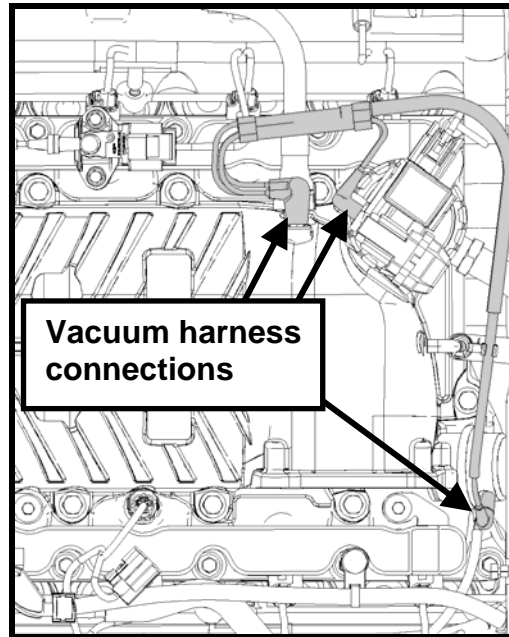

Fig. 24
STEP 8: Re-install the vacuum harness to the ESM, supercharger and supercharger bypass actuator (See Fig. 24). **NOTE:** Ensure the harness is properly routed and all connections are fully seated.